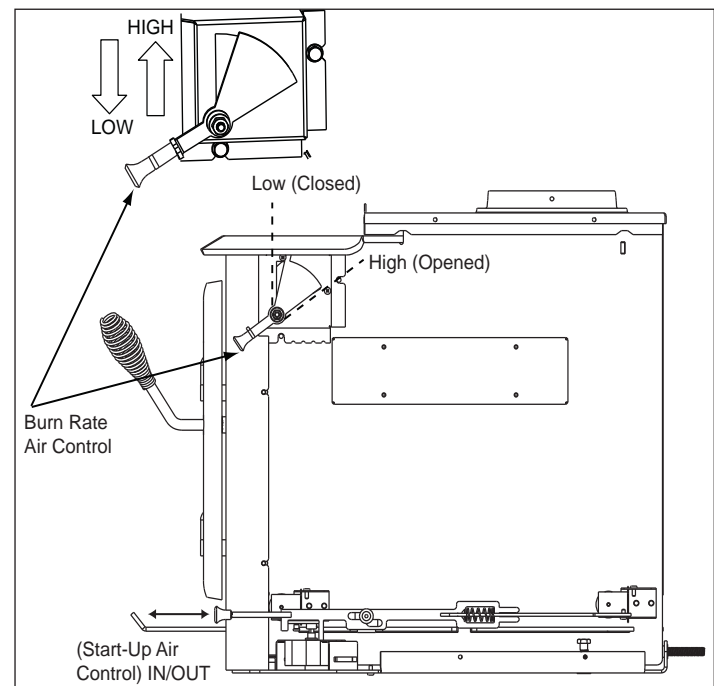

Figure 12.1 Activating Timer
- When the control is raised all the way up it is on the High setting and when pushed all the way down it is on the Low setting. **Figure 12.1.**
2. Follow these burn rate instructions below and refer to **Figure 12.1**